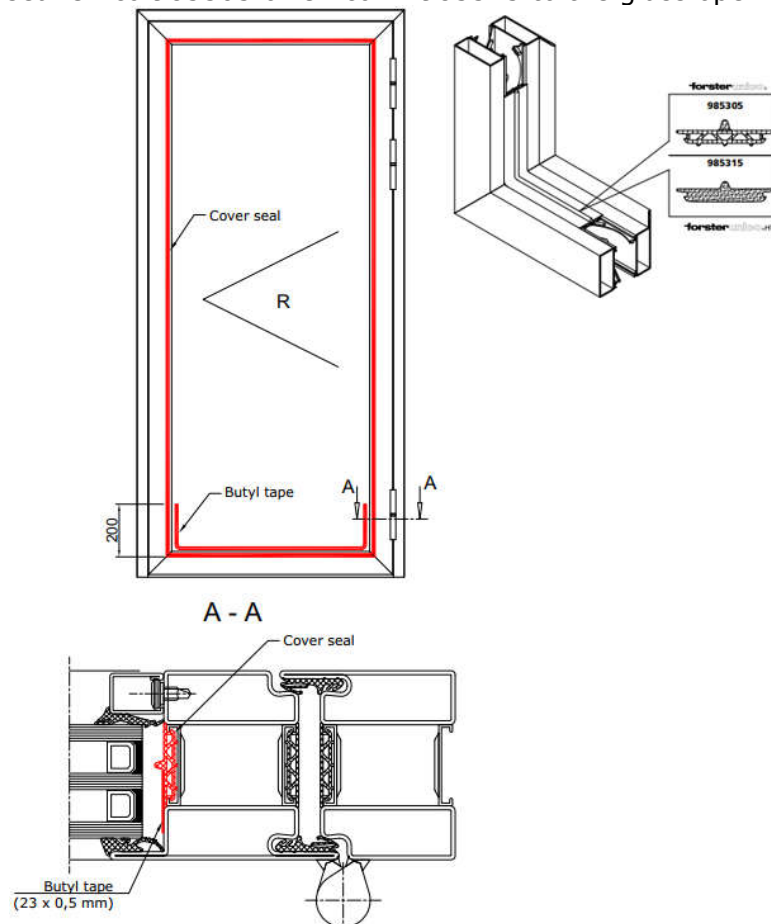

Figure 9 Cover seal and butyl tape installation
- 2. Install the cover seal Unico 985305 or Unico Hi 985315 to the glass opening (Figure 9).
3. Install butyl tape in the lower part of the glass opening. Butyl tape must't cover the drainage pipe in the horizontal profiles, make cutouts for these. The corners of the frame must be siliconed after the tape installation. If the drainage pipes have not been previously installed, they must also be added. Butyl tape must be installed in each glass opening (Figure 9 and 10).